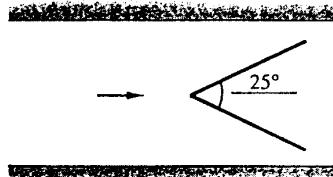

Fig. P10.50
**10.50** A pencil point piercing the surface of a rectangular channel flow creates a  $25^\circ$  half-angle wedgelike wave, as in Fig. P10.50. If the channel surface is painted steel and the depth is 35 cm, determine (a) the Froude no.; (b) the critical depth; and (c) the critical slope.
**10.55** A trapezoidal channel resembles Fig. 10.7 with  $b = 1 \text{ m}$  and  $\theta = 50^\circ$ . The water depth is 2 m and  $Q = 32 \text{ m}^3/\text{s}$ . If you stick your fingernail in the surface, as in Fig. P10.50, what half-angle wave might appear?